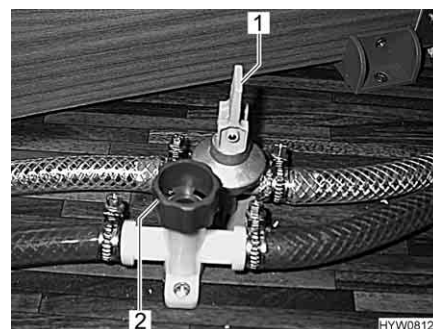

Fig. 156 Drain cocks
- Close all boiler drain cocks. To do this, position the rocking lever (Fig. 156,1) horizontally or turn the cap (Fig. 156,2) in a clockwise direction.
- Open all boiler drain cocks. To do this, position the rocking lever (Fig. 156,1) vertically or turn the cap (Fig. 156,2) in an anticlockwise direction.